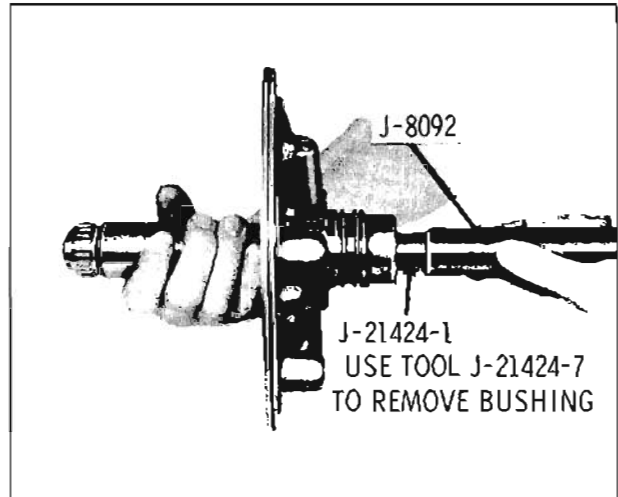

Fig. 6-332 Removing Stator Shaft Bushing
14. Check stator shaft bushing for nicks, severe scoring or wear. If bushing replacement is necessary, proceed as follows: Assemble Bushing Remover J-21424-7 to Extension J-21424-1. Assemble this assembly to Drive Handle J-8092. Holding stator shaft as shown in Fig. 6-332, drive out bushing.